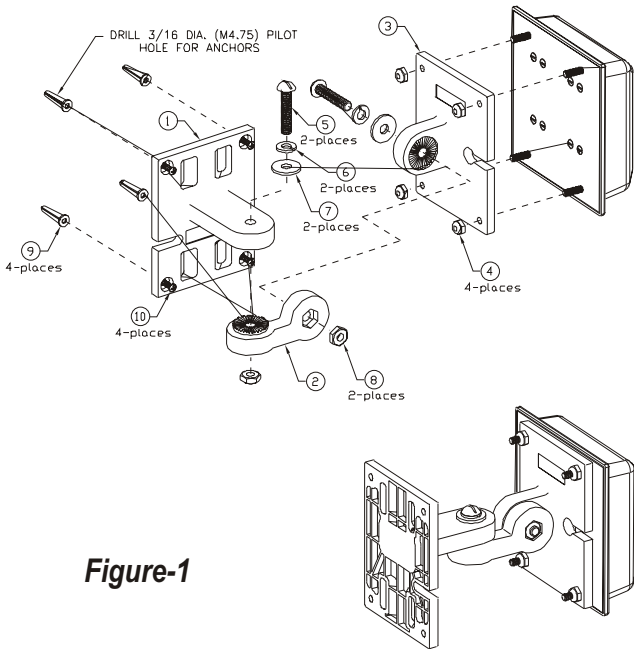

Figure-1
Install the articulating mount to the antenna back plane, as shown in Figure-1:
1. Find the molded antenna mount (3) and four 8-32 nylon lock nuts (4). Use the nuts to attach the mount to the exposed studs on the back of the antenna.
2. Find the molded articulating arm (2). Also, find a 1/4"-20 x 1-1/4" machine screw (5), 1/4" lock washer (6), 1/4" flat washer (7), and 1/4"-20 hex nut (8). Use hardware to secure the molded arm to the antenna mount as shown in Figure-1.
3. For installation on flat surfaces, find the molded wall/mast mount (1) and use it as a drill template to mark hole locations. Drill four 3/16" diameter pilot holes and install wall anchors (9). Install the mount using four 8-18 x 3/4" self-tapping screws (10).
4. For pole or mast installations, find two worm clamps (11) and install as shown on the molded wall-mast mount (1). Encircle pole with each band and tighten.
5. To attach the antenna assembly to the wall/mast mount, find a 1/4" x 1-1/4" machine screw (5) and install a 1/4" lock washer (6) and a 1/4" flat washer (7) as shown. Use the screw to attach the free end of the articulating arm to the mount, securing in place with a 1/4"-20 nut (8).